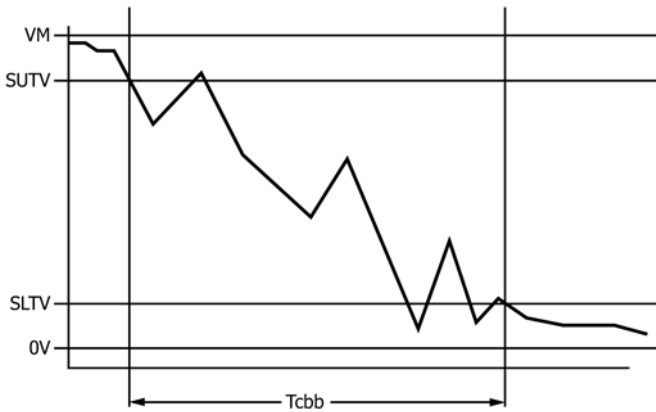

FIG. 1 Contact Bounce on Switch Break
3.1.2 *contact bounce time (break)*, T_{CBB} —the time period measured from the first instant V_M is equal to the SUTV until it constantly remains below the SLTV after the last instant it rises above the SUTV. If V_M does not rise above SUTV during the time interval, $T_{CBB} = 0$, (see Fig. 1).
7.3.2 Record T_{CBB} (see Fig. 1) from oscilloscope display.